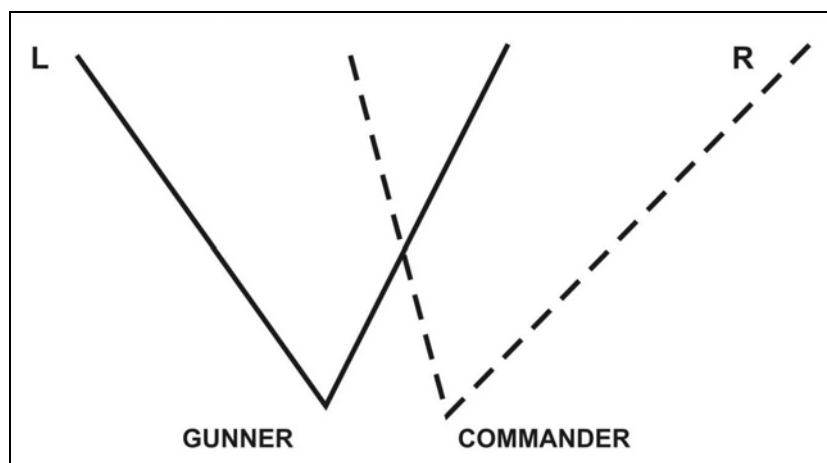

Figure 6-8. Divided sector.
(2) **Divided Sector.** The BC and gunner can divide and search the same sector. Each scans one-half of it, and they ensure they overlap in the center (Figure 6-8 and FM 3-21.71).